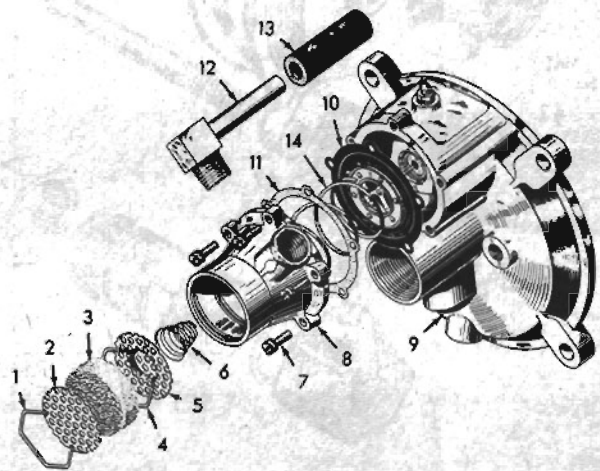

FIG. 36
**Air Cleaner**—Remove the outer snap ring (1, Fig. 36) and take out the screen (2) and the hair filter (3).
**Valve Cover and Diaphragm**—Disengage the inner snap ring (4, Fig. 36) and take out the spring retainer (5) and poppet return spring (6). Scratch alignment marks on the control valve body (8) and the cylinder end plate (9). Take out the attaching screws (7) and remove the control valve cover and diaphragm spring (14). Remove the diaphragm (10) and valve cover gasket (11). Do not disassemble the valve cover. If the poppet assembly is worn or damaged, replace the complete assembly.